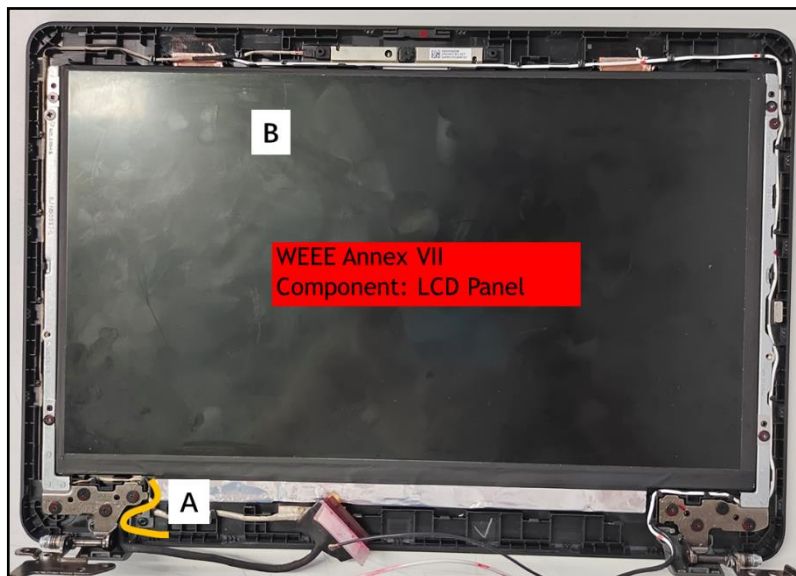

Figure 3-47. LCD Panel Removal
5. Release the EDP cable (A) from the left hinge cap (Figure 3-47). Then remove the LCD panel (B).